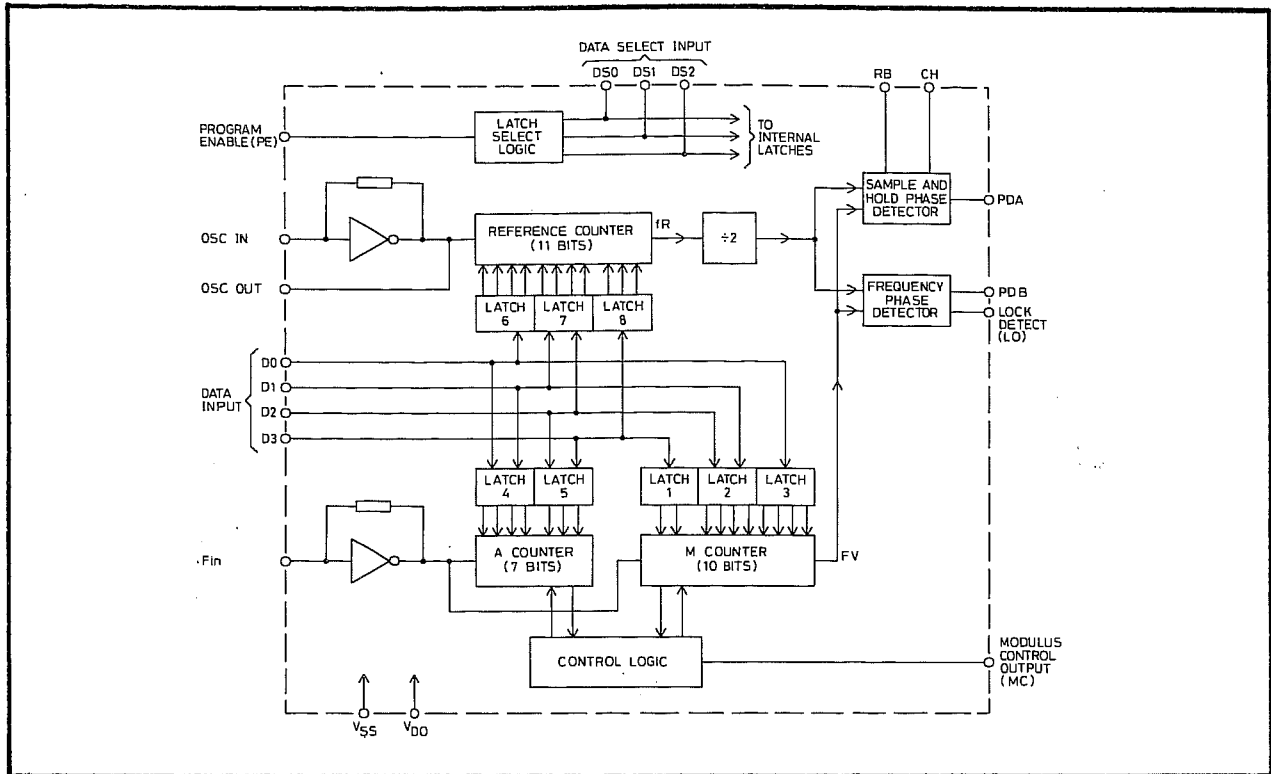

Fig. 6.7 Synthesizer IC2 Block Diagram
- 53 The VCO output at Q2 collector is sampled by C7 and fed via R9 to the input of IC4, a divide by 40/41 dual modulus prescaler. IC4 divides down the VCO output to a frequency low enough to be handled by the main synthesizer chip, IC2. A block diagram of IC2 is given in Fig. 6.7.